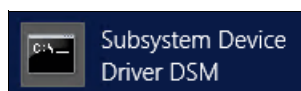

Figure 5-7 Subsystem Device Driver DSM
4. Click **Subsystem Device Driver DSM**. See Figure 5-7.